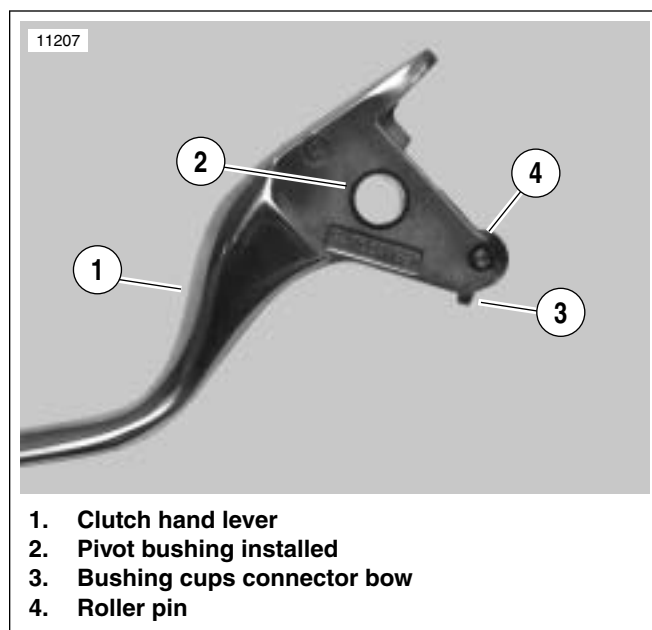

Figure 2-48. Clutch Hand Lever
1. See Figure 2-48. Slide bushing cups (3) onto pins of roller with cup flanges against roller.